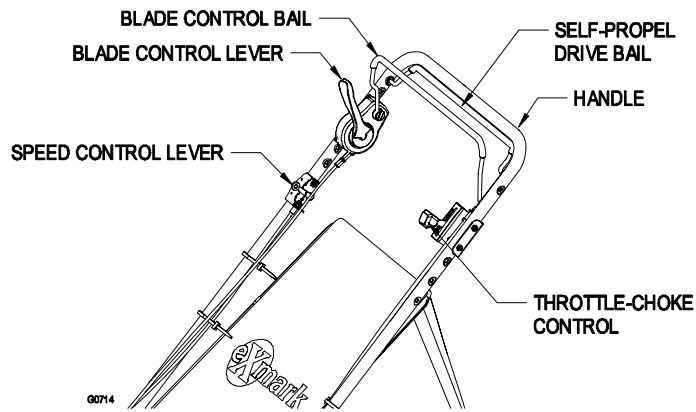

FIGURE 1
Located on the upper handle as shown in Figure 1. **When the blade control bail is depressed, the system senses that the operator is in the normal operator's position.**
Located on the upper handle as shown in Figure 1. When the self-propel drive bail is squeezed, the unit will move forward at the speed set on the speed control lever. When this bail is released the unit will stop moving.
The throttle-choke control is located on the left side of the handles as shown in Figure 1. The lever is used to control engine speed. Moving the lever to the full forward **N** (**Choke**) position will place the lever in the choke position. The choke aids in starting a cold engine. Moving the throttle control forward will increase engine speed and moving it to the rear will decrease engine speed.
The blade control lever is located on the right side of the handle next to the Blade Control Bail as shown in Figure 1. Moving the blade control lever into the full forward position while depressing the blade control bail engages the blade. Releasing the blade control bail automatically disengages the blades.
The ground speed control is located on the right side of the handles below the blade engagement lever as shown in Figure 1. The ground speed control has three settings which control the ground speed of the mower.
The lawn mower has three ground speeds. **1** is slow, **2** is medium, and **3** is fast (See Figure 1 for speed control lever location).
- c) Squeeze the drive bail against the handle (See Figure 1).
- b) Squeeze the blade control bail against the handle (Figure 1).
- c) Move the blade control lever to the full forward **Latch** position. Blades should engage (Figure 1).